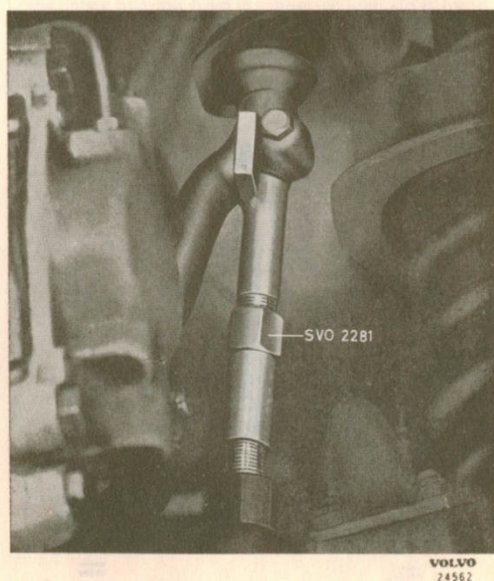

Fig. 6-15. Removing the lower ball joint
4. Disconnect the brake line from the retainer. Apply tool SVO 2281 to the spindle as shown in Fig. 6-15. The retainer for the brake line may have to be bent to the side slightly. Turn the nut of the tool until the tool begins to tension. Turn the nut until the ball joint slackens, not, however, more than one and a half turns. If the ball joint fits so tightly that it does not slacken with this amount of turning, strike a few light blows with a hammer and counterhold on the spindle ball joint attachment.